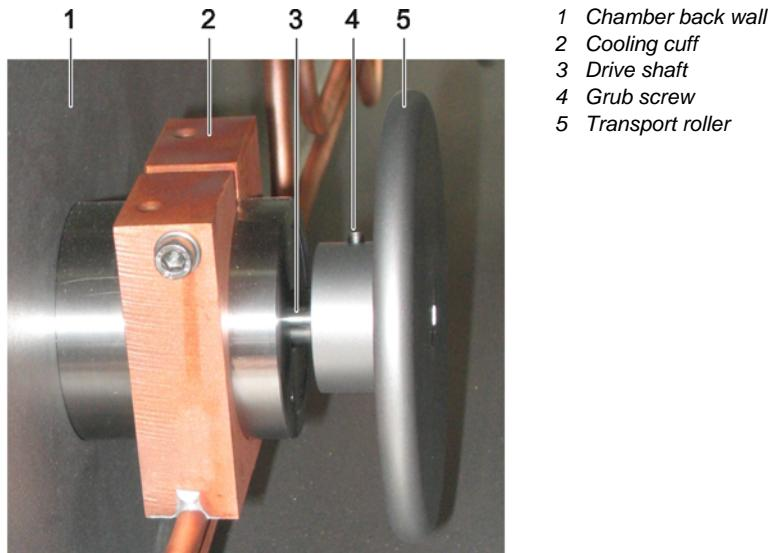

Fig. 8-9
Removing the transport rollers (see Fig. 8-9, Fig. 256)
- 13 Put the shielding (2 in [Fig. 8-8, \[Fig. 255\]\(#\)](#)) on the cooling cuff (2 in [Fig. 8-9, \[Fig. 256\]\(#\)](#)).
- 14 Put the shielding (3 in [Fig. 8-8, \[Fig. 255\]\(#\)](#)) on the cooling cuff (2 in [Fig. 8-9, \[Fig. 256\]\(#\)](#)).